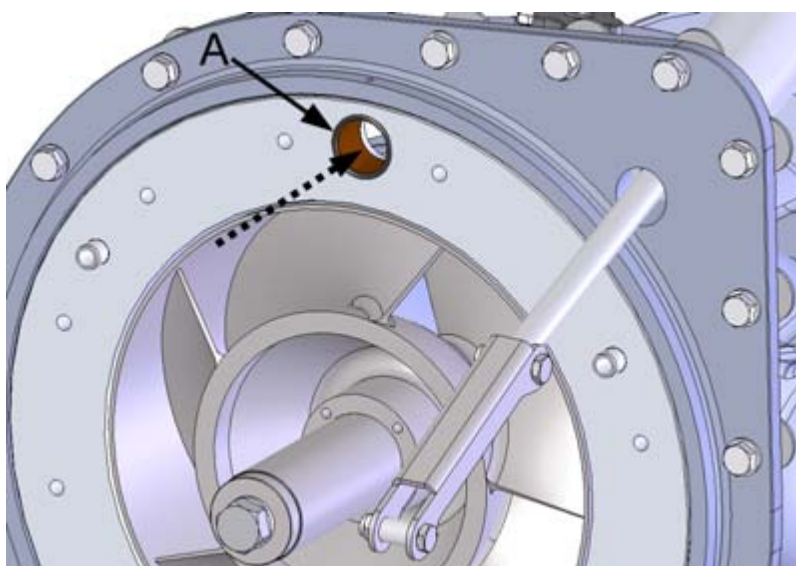

Figure 70. Removing the front end bushing and o-ring
2. Remove the old front bushing by pushing it from the hole with a suitable mandrel (figure 70). While doing so, remove the o-ring from its groove (figure 70, point A).